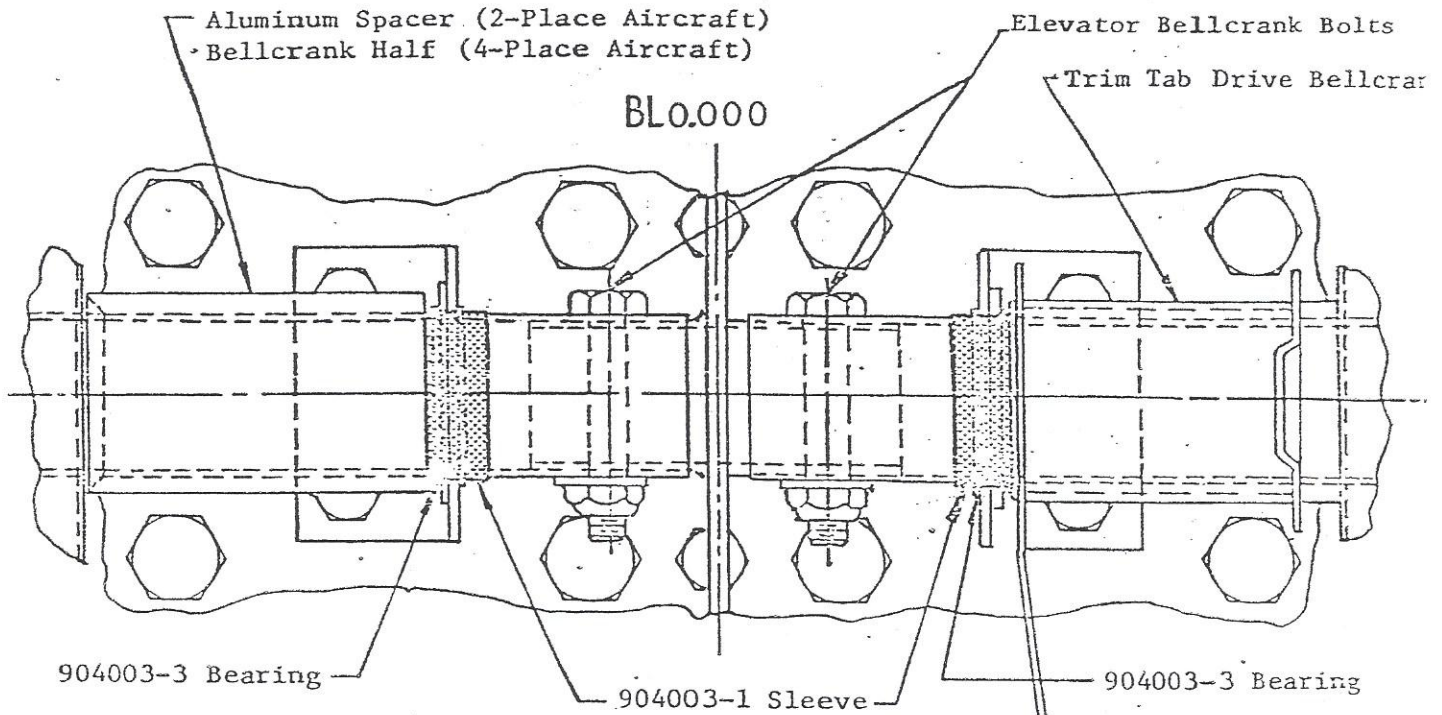

FIGURE 3. INBOARD ELEVATOR BEARING REPAIR
3. Remove bolts which connect elevator torque tubes to elevator bellcrank. (See Figure 3)
ON 2-PLACE AIRCRAFT, BEFORE 904003-1 SLEEVES ARE INSTALLED, BE SURE TRIM TAB DRIVE BELLCRANK IS IN PLACE ON R. H. ELEVATOR TORQUE TUBE AND ALUMINUM SPACER (BELLCRANK HALF ON 4-PLACE AIRCRAFT), IS IN PLACE ON L. H. ELEVATOR. SEE FIGURE 3.
11. Slide 904003-1 sleeves (inboard), and 904003-1 sleeves (outboard), in place over worn bearing surfaces and lock in place with "Loctite #601" or "#74 Nut Lock" or equivalent. See Figure 3 and 4.
13. Replace original bearing inserts on inboard and outboard elevator support brackets with new larger bore 904003-3 bearings. Round out or "size" new bearings to seat firmly in support brackets. See Figure 3 and 4.